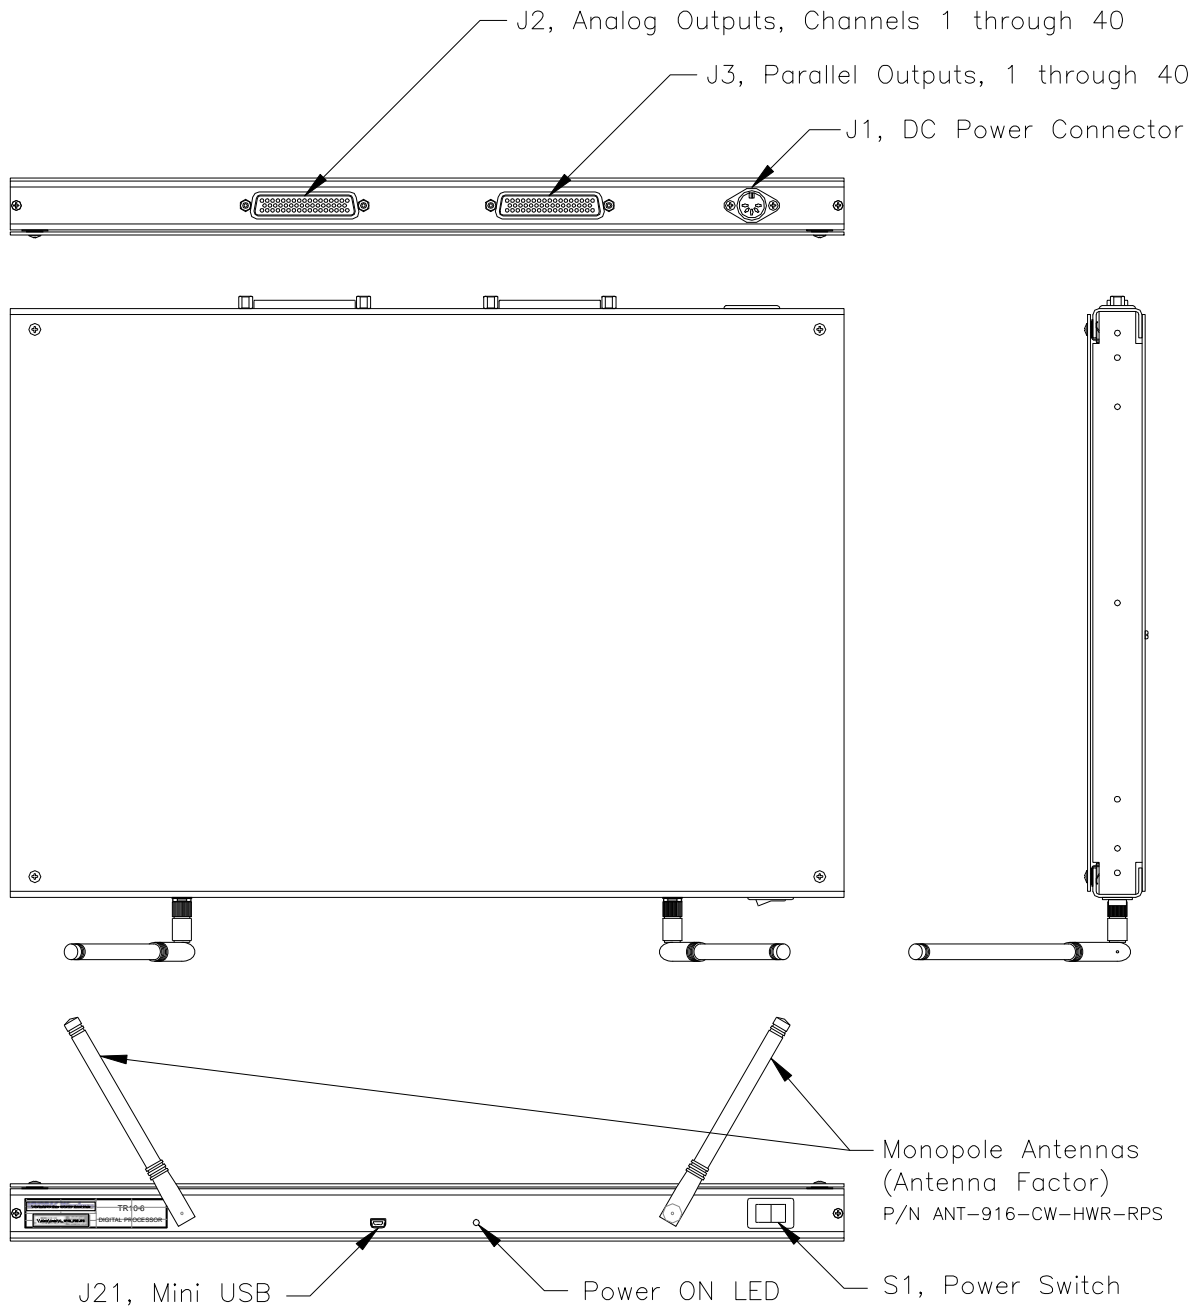

Figure 7
2. The receive antennas should be oriented at “10 O’clock” and “2 O’clock” (see Figure 7).